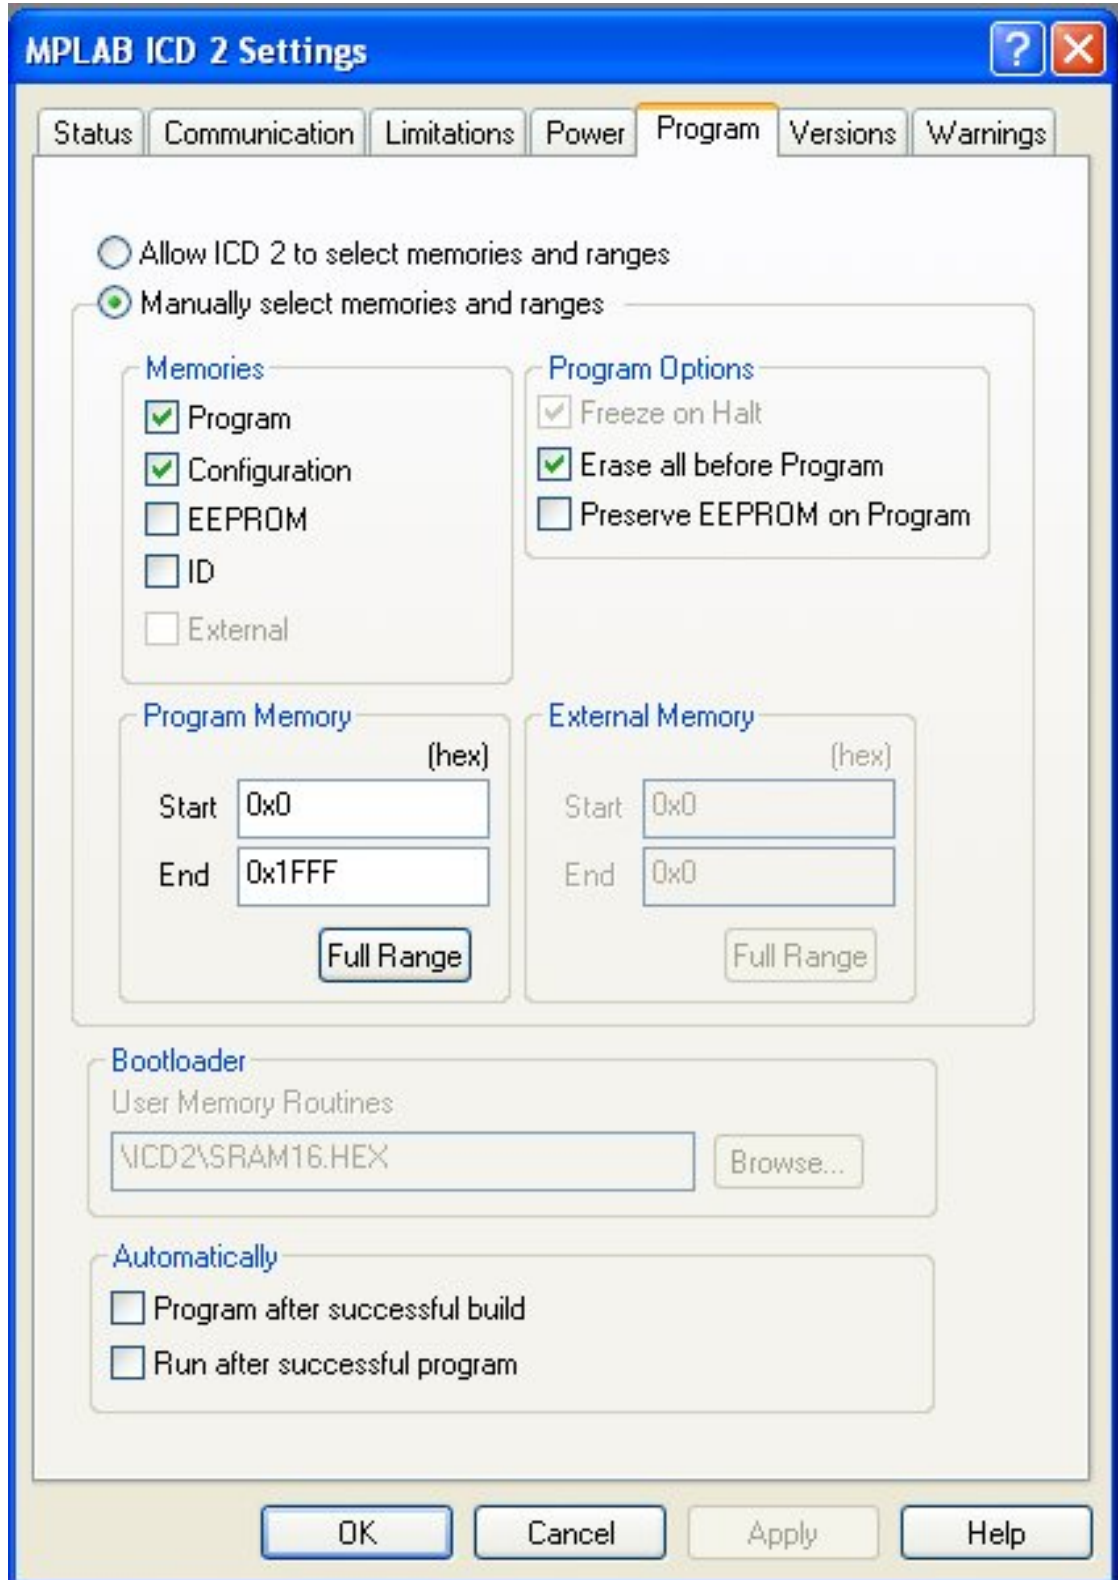

Figure 17: Program Settings
- *Programmer* → *Settings* → *Program Tab* (Fig 17): Select “*Manually select memories and ranges. Click on Full Range*” under Program Memory.